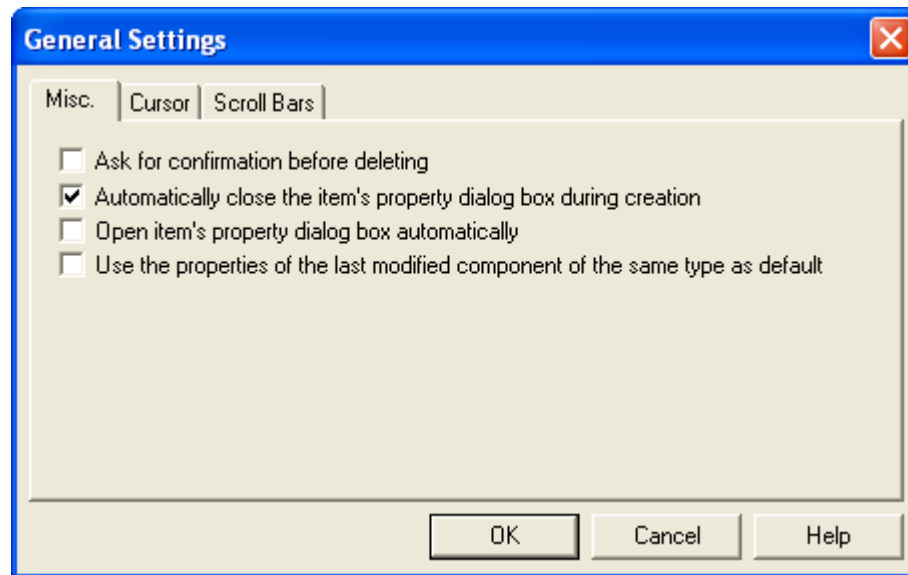

FIGURE 1.8-4 GENERAL SETTINGS DIALOG WINDOW
**General Settings.** The General Settings menu item opens the dialog window of Fig. 1.8-4. The Cursor and Scroll Bars tabs control the display on the screen. The functions listed on the Misc. tab are self-explanatory. The last check box is used to set the parameters of the entity you want to create. If selected, the program will use the last modification you make in the property window of an entity, such as column, when you generate the next entity of the same type, such as column. Obviously, you can go back and edit the dimensions.